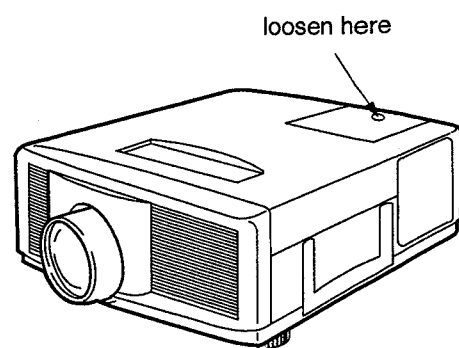

Fig. 4-1
1. Loosen the screw of the lamp lid on the top cover using a screw driver(-) or a coin, and remove the lid. [Fig.4-1]
6. Tighten up the screw of the lamp lid using a screwdriver (-) or a coin. [Fig.4-1]